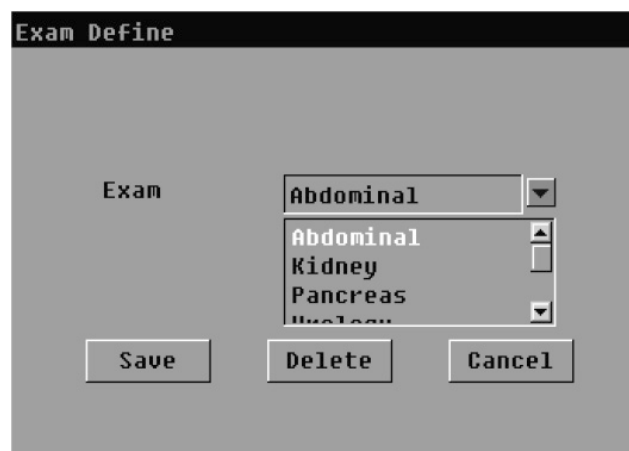

Figure 5.1: Save customized exam mode
3. Press **SAVE** to open the *Exam Define* window, see Figure 5.1.
*To delete an exam mode, select a user-defined exam mode in Figure 5.1 and click **Delete**. You can only delete user-defined exam modes.*